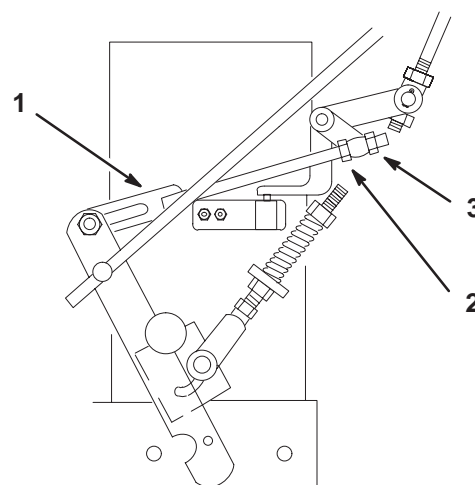

Figure 52
5. Loosen the **front** nut on left hydro control linkage as shown in figure 52.
6. Turn the left **rear** adjusting nut counter-clockwise until wheel rotates forward (Fig. 52).
7. Turn the **rear** adjusting nut clockwise 1/4 of a turn at a time. Then move the speed control lever forward and back to neutral. Repeat this until left wheel stops rotating forward (Fig. 52).
11. Tighten the **front** nut on left hydro control linkage shown in figure 52.